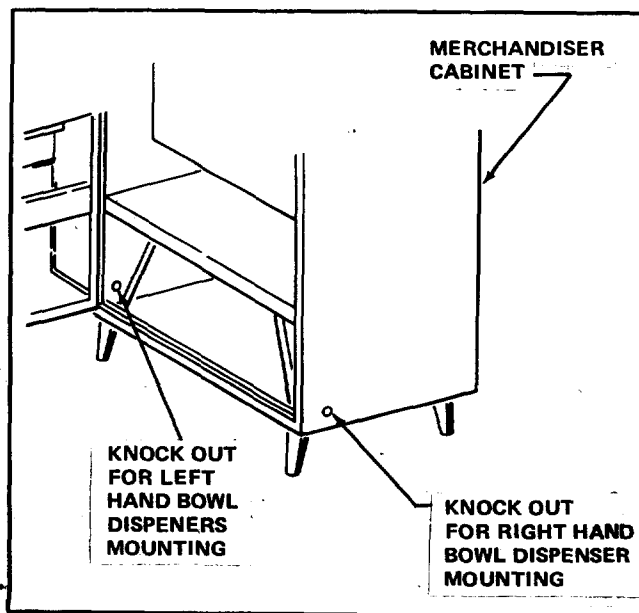

FIGURE IV-1
- C. At the front of each side of the Merchandiser Cabinet, toward the bottom of the Cabinet is a knock-out. If the Bowl Dispenser is to be mounted on the left-hand side of the Merchandiser, punch out the plug on the left-hand side of the Merchandiser Cabinet. If the Bowl Dispenser is to be mounted on the right-hand side of the Merchandiser, punch out the plug on the right-hand side of the Merchandiser Cabinet. See Figure IV-1.